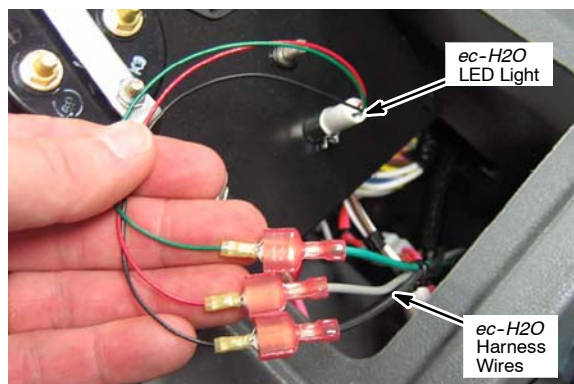

Fig. 18
3. Connect the routed *ec-H2O* harness wires to the LED light (GRAY to RED, GRN to GRN and BLK to BLK) (Figure 18).